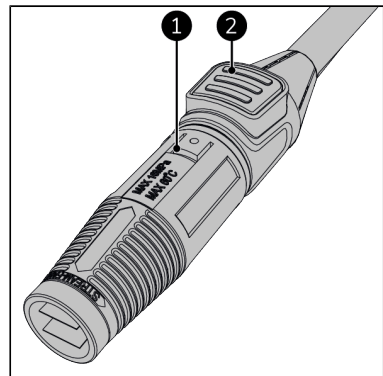

Figure 35.
15. Remove the nozzle or floor cleaner (Figure 35, pos. 1) by pressing the release button (Figure 35, pos. 2) on the jet gun.